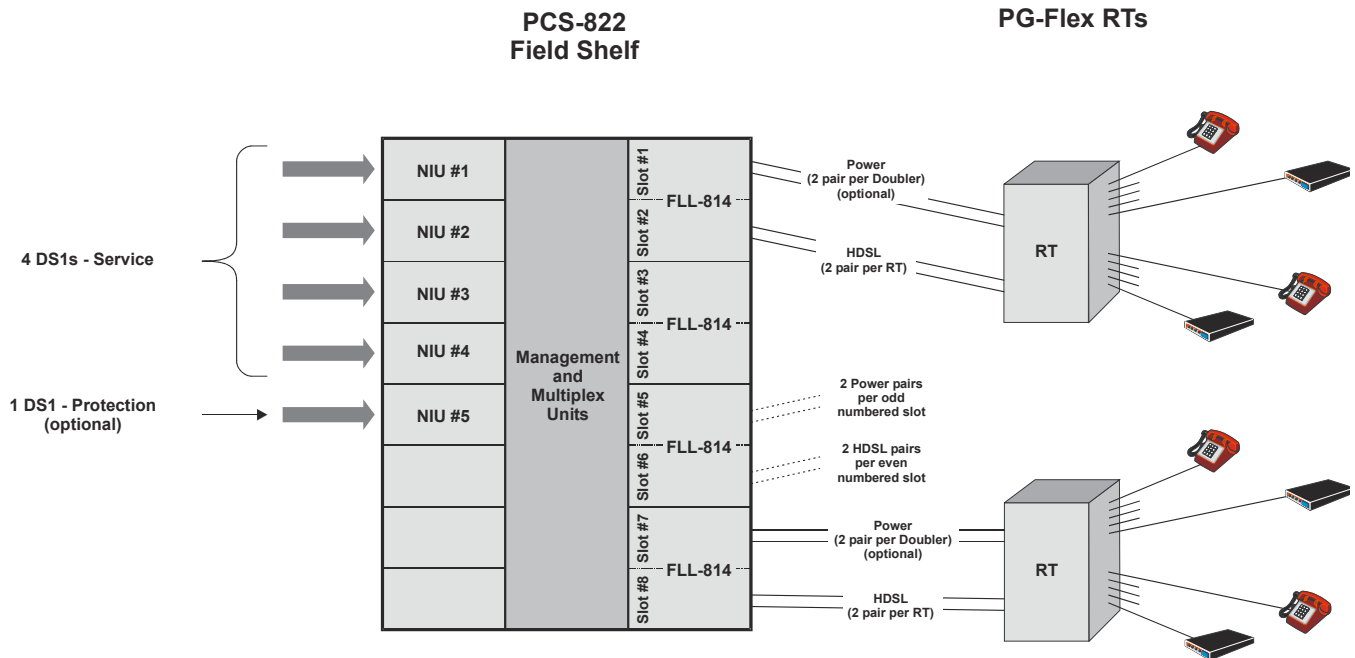

Figure 4. PCS-822 Application – 24 Channel Systems
A typical 24 channel configuration is shown in **Figure 4**. This application uses FLL-814 and PG-Flex Remote Terminal (RT) Enclosures to support voice services. Two additional power pairs are required between the Field Shelf and the RT Enclosures for each Doubler used to extend the distance between the Field Shelf and RT Enclosure. Optionally, the RT Enclosure may be locally powered to eliminate the need for the power pairs. The four DS1 circuits provide 96 DS0s of service with the optional fifth DS1 providing a protection circuit.